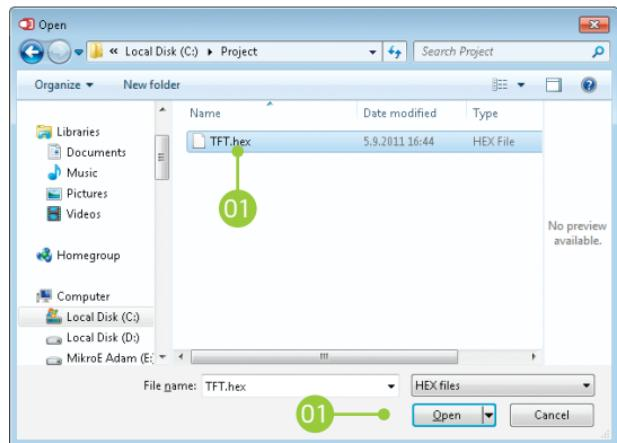

Figure 3-5: Selecting HEX
- 01 Click the "Browse for HEX" button and from a pop-up window (Figure 3.5) choose the .HEX file which will be uploaded to MCU memory.